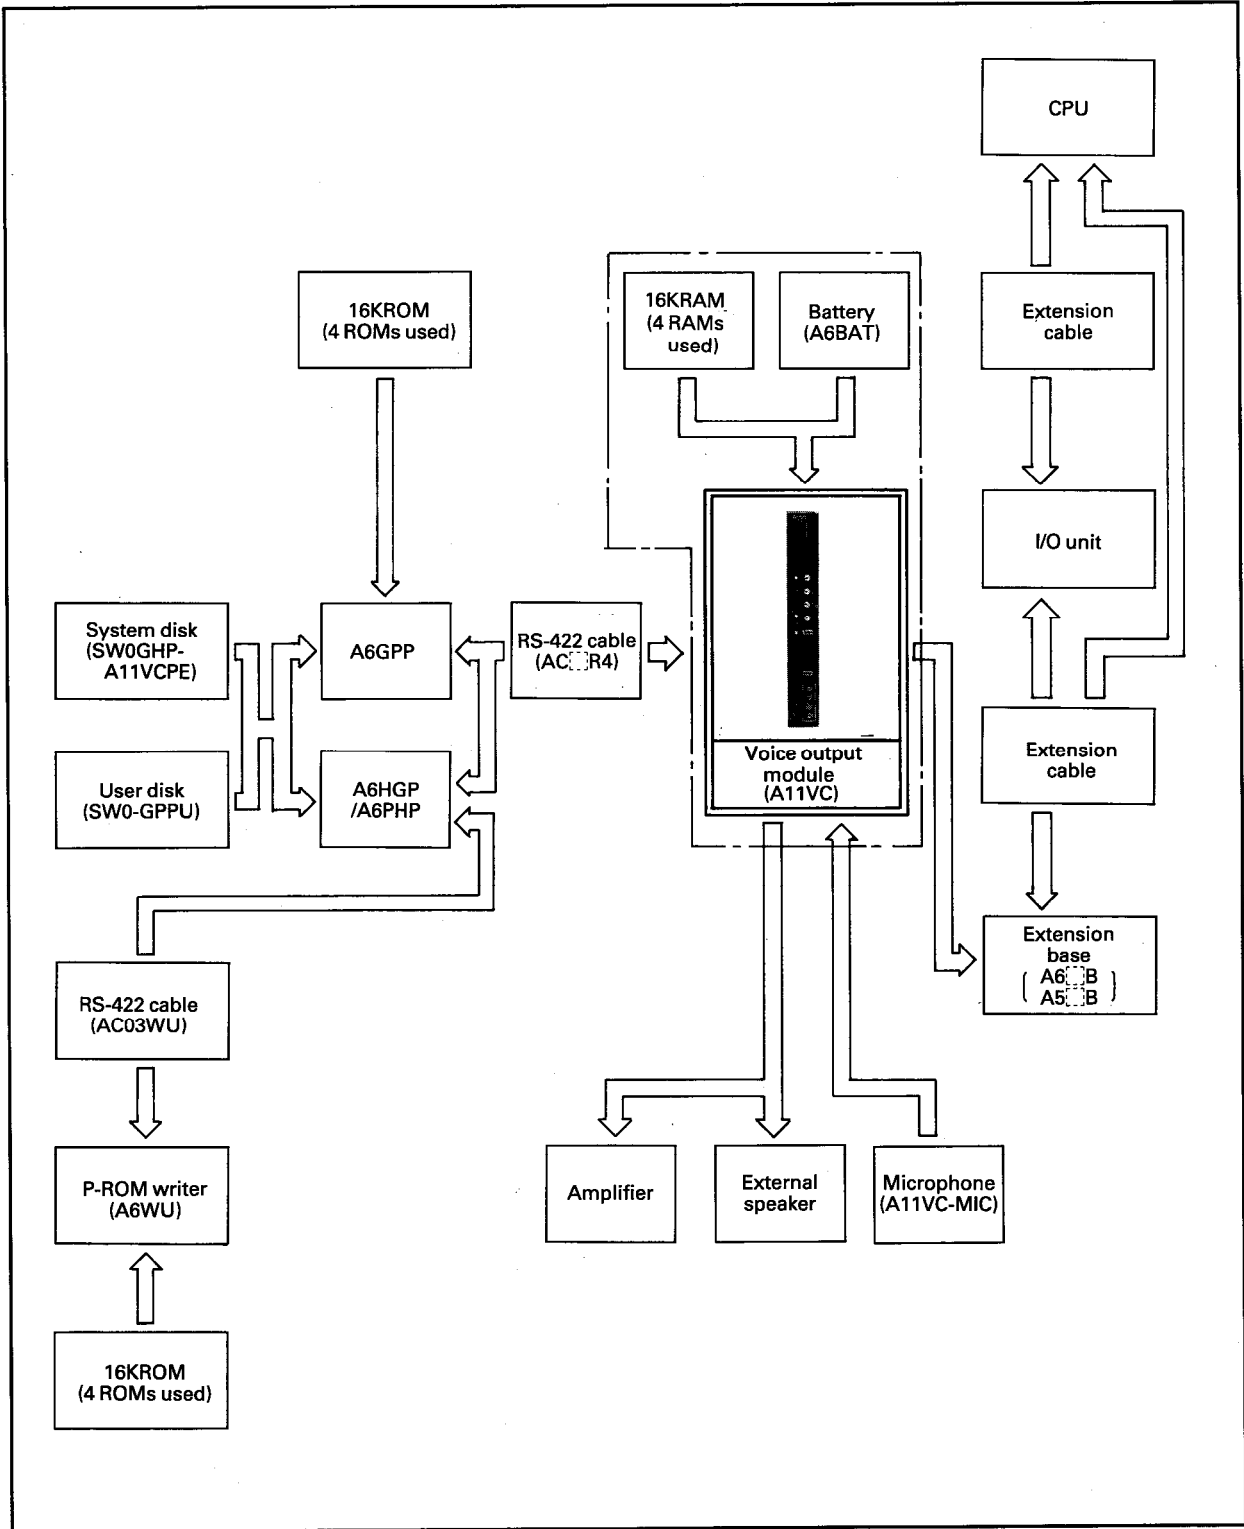

Fig. 2.2 System Configuration (using compact type CPU)
(2) Fig. 2.2 shows the system configuration that uses a compact type CPU.